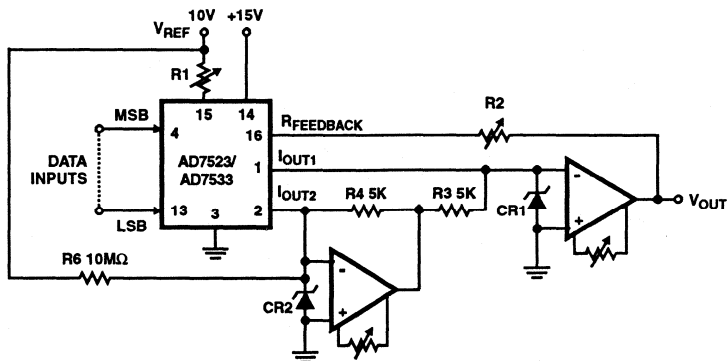

FIGURE 3. BIPOLAR OPERATION (4-QUADRANT MULTIPLICATION)
The circuit configuration for operating the AD7523 in the bipolar mode is given in Figure 3. Using offset binary digital input codes and positive and negative reference voltage values, Four-Quadrant multiplication can be realized. The "Digital Input Code/Analog Output Value" table for bipolar mode is given in Table 3.)
I_{OUT1} and I_{OUT2} bus currents are complements of one another. The current amplifier at I_{OUT2} changes the polarity of I_{OUT2} current and the transconductance amplifier at I_{OUT1} output sums the two currents. This configuration doubles the output range. The difference current resulting at zero offset binary code, (MSB = "Logic 1", all other bits = "Logic 0"), is corrected by using an external resistor, (10M Ω), from V_{REF} to I_{OUT2} (Figure 3).
The circuit configuration for operating the AD7533 in the bipolar mode is given in Figure 3. Using offset binary digital input codes and positive and negative reference voltage values, 4-Quadrant multiplication can be realized. The "Digital Input Code/Analog Output Value" table for bipolar mode is given in Table 4.
3. Nominal LSB magnitude for the circuit of Figure 3 is given by